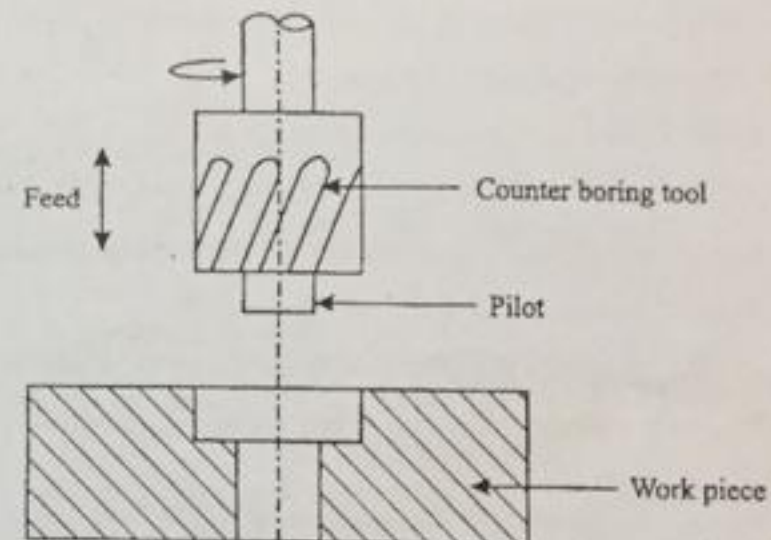

Fig 6: Counter boring operation
- Fig 6 shows the Counter boring operation